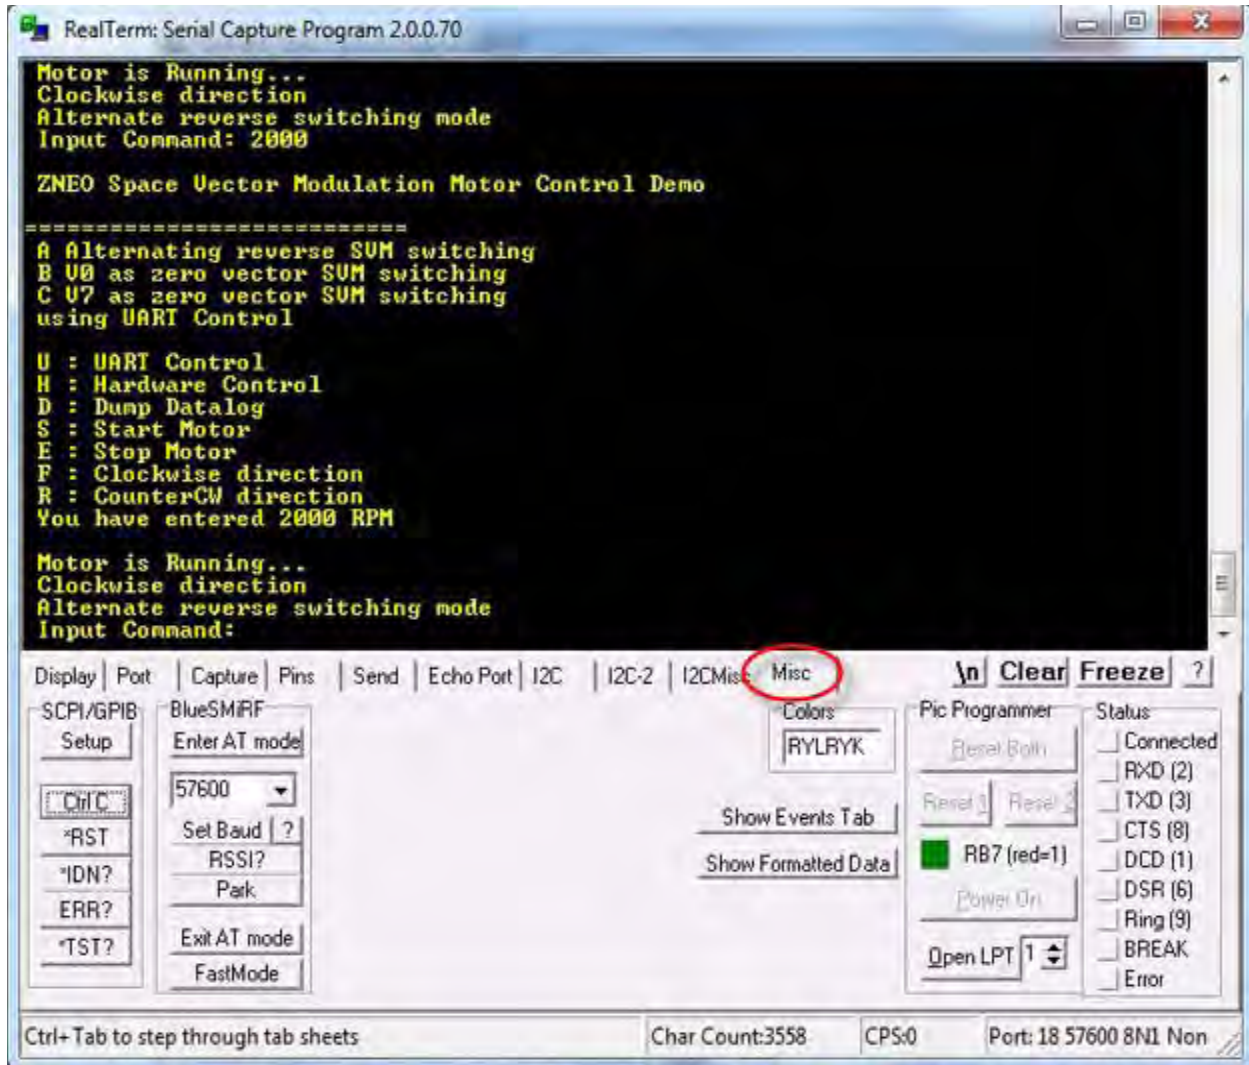

Figure 5. Select the Miscellaneous Tab
11. In the RealTerm window, select the **Miscellaneous** tab, as indicated in Figure 5.